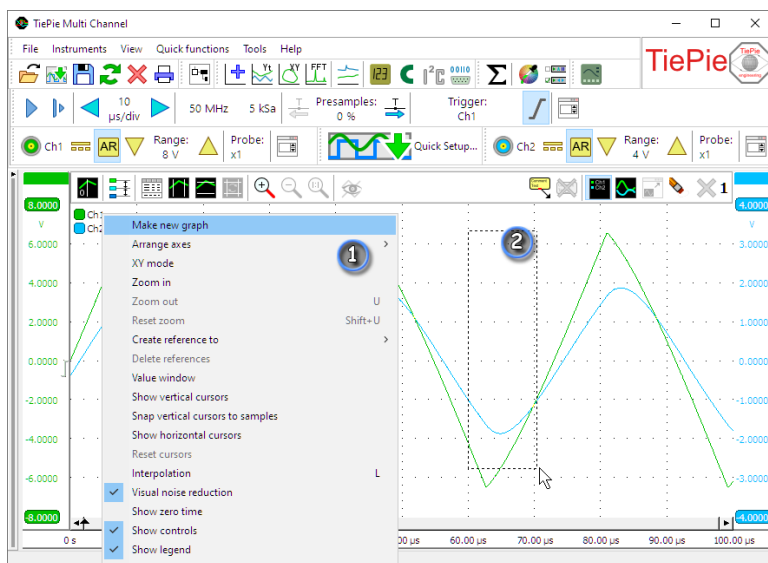

Figure 9.1: Create a new graph in two steps
It is also possible to create a graph at a self defined location. ① Right-click anywhere in a graph on the main screen and select **Make new graph** from the menu. ② After dragging a rectangle anywhere on the graph section, a new graph will be created on the selected position. See figure 9.1.